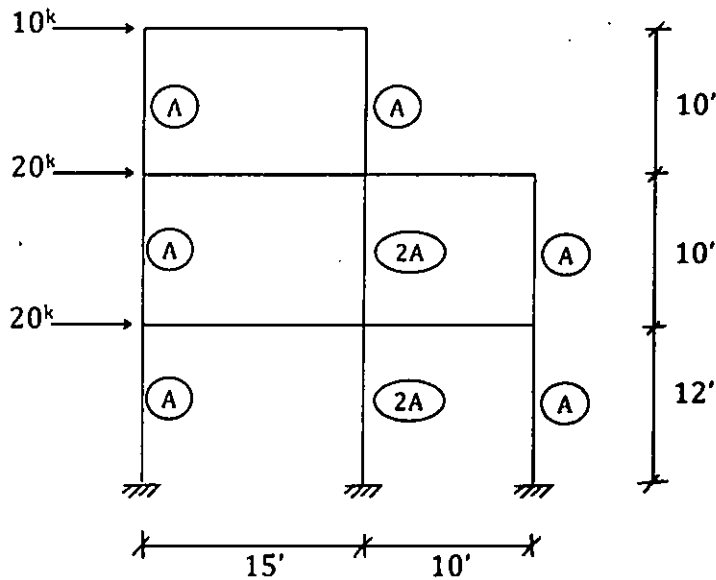

Figure 5.
5. Using the cantilever method, draw the shear force and bending moment diagrams for the building frame as shown in Figure 5. Relative column cross-sectional areas are given beside the columns. (28)